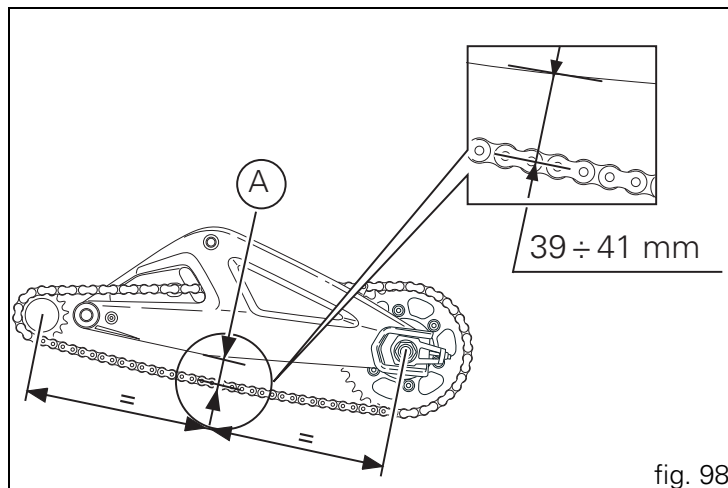
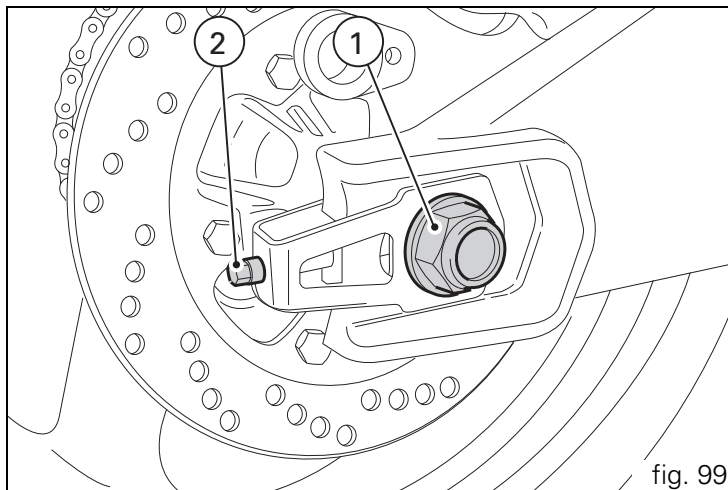

fig. 98
fig. 99
Make the rear wheel turn until you find the position where chain is tightest. Set the vehicle on the side stand. Lower the chain by pressing down on it only with your finger at the point of measurement, and release. Measure distance (A) between chain pin centre and the aluminium section of the swingarm. It must be:  $A = 39 \div 41$  mm (fig. 98). To adjust the tension loosen the wheel shaft nut (1, fig. 99), tighten the screw (2) to the same torque in the opposite direction on both sides of the swingarm in order to increase the tension or loosen to reduce it. In the latter case, you will need to push the wheel forward.
Correct tightening of swinging arm screws (1, fig. 99) is critical to rider and passenger safety.